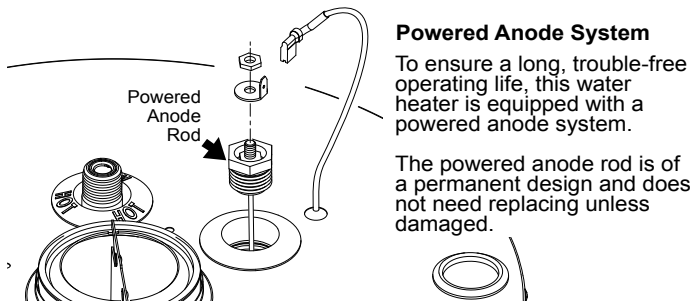

FIGURE 22.
4. Remove the wiring connection on the top of the powered anode and remove the old powered anode rod (Figure 22).